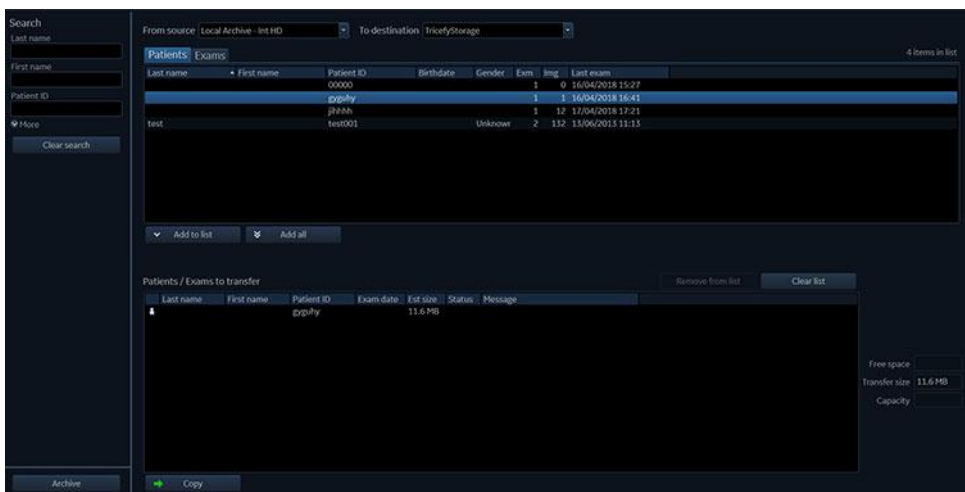

Figure 10-48. The Transfer screen
The *Transfer screen* is displayed (Figure 10-48)
4. Press **Copy** (Figure 10-48). The exam data is sent to the Tricify website ([https://tricify4.com/users/sign\\_in](https://tricify4.com/users/sign_in)).